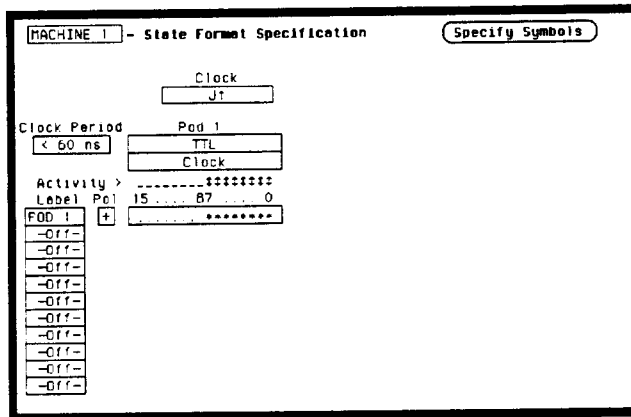

Figure 3-13. Format Specification for Data Test 2
- In the **State Format Specification** assign the **Clock Period** to **< 60 ns**, and assign the rising edge of the J clock to the **Clock** field. Also, assign the lower 8 channels of the pod under test to a label as in figure 3-13.
- In the **State Format Specification** menu assign the **Clock Period** to **< 60 ns**, and the falling edge of J clock to the **Clock** field. Also, assign the lower 8 channels of the pod under test to a label as in the previous test figure 3-13.